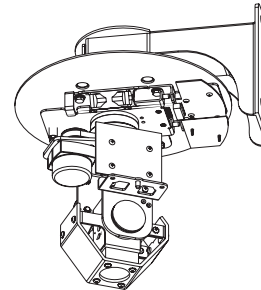

Figure 8
2. Place the pan/tilt inside the housing so that the alignment pins are facing the housing PC board. The two vertical flanges on the pan/tilt quick release plate should slide in between the two vertical flanges on the housing plate. There are also notches on the back side of the quick release plate that align with support tabs on the housing plate (Figure 8).